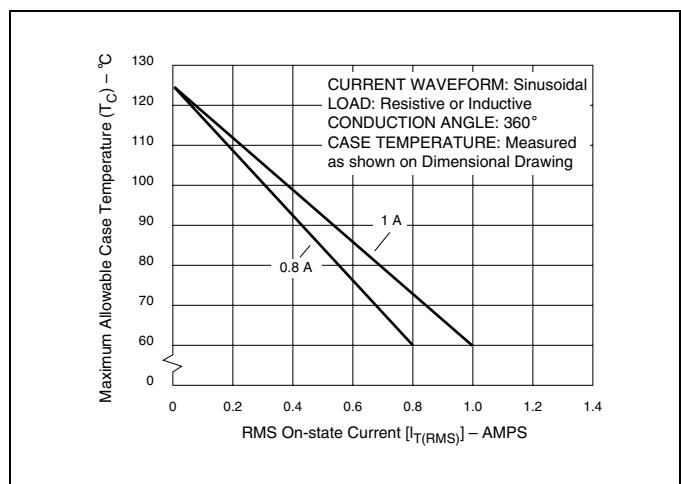
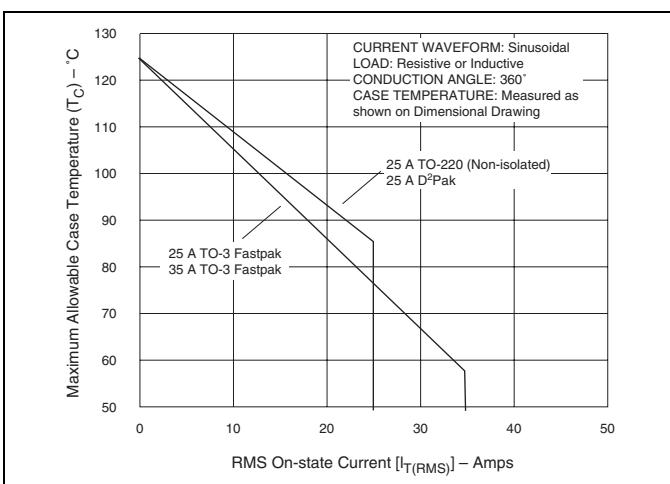
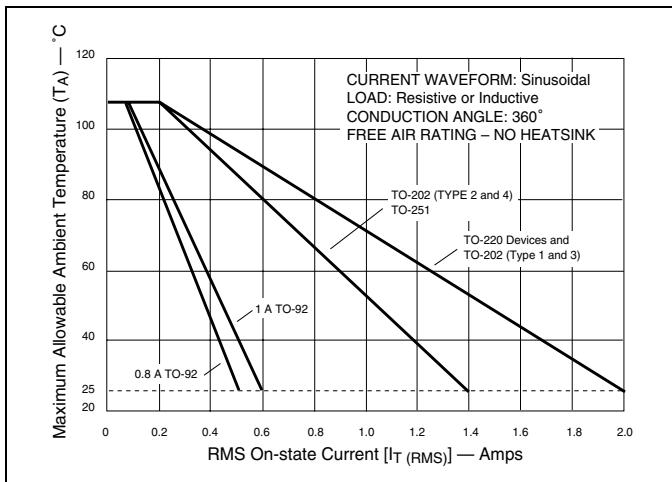
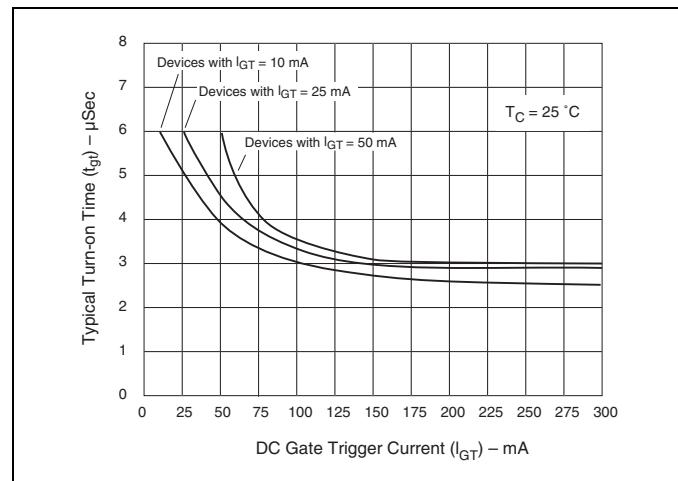

Figure E2.1 Maximum Allowable Case Temperature versus On-state Current (0.8 A and 1 A)
Figure E2.6 Maximum Allowable Case Temperature versus On-state Current (25 A and 35 A)
Figure E2.7 Maximum Allowable Ambient Temperature versus On-state Current
Figure E2.15 Turn-on Time versus Gate Trigger Current (Typical)
- (1) For either polarity of MT2 with reference to MT1 terminal
- (2) For either polarity of gate voltage (V_{GT}) with reference to MT1 terminal
- (3) See Gate Characteristics and Definition of Quadrants.
- (4) See Figure E2.1 through Figure E2.7 for current rating at specific operating temperature.
- (10) See Figure E2.15 for t_{gt} versus I_{GT}.
- (11) See package outlines for lead form configurations. When ordering special lead forming, add type number as suffix to part number.
- (12) Initial on-state current = 200 mA dc for 0.8 A to 10 A devices, 400 mA dc for 15 A to 35 A devices
- (13) See Figure E2.1 through Figure E2.6 for maximum allowable case temperature at maximum rated current.
- (14) Pulse width ≤ 10 μs; I_{GT} ≤ I_{GTM}
(15) R_L = 60 Ω for 0.8 A to 10 A triacs; R_L = 30 Ω for 15 A to 35 A triacs
(16) T_C = T_J for test conditions in off state
(17) I_{GT} = 300 mA for 25 A and 35 A devices
(18) Quadrants I, II, III only
(19) Minimum non-trigger V_{GT} at 125 °C is 0.2 V for all except 50 mA MAX QIV devices which are 0.2 V at 110 °C.